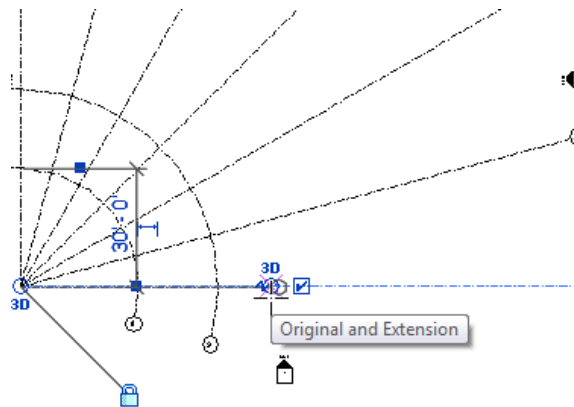

Figure 3-63 Dragging the grid endpoint to resize
2. Now, press and drag the cursor toward the left and release the mouse when the cursor along with the grid endpoint reaches the location shown in Figure 3-63.